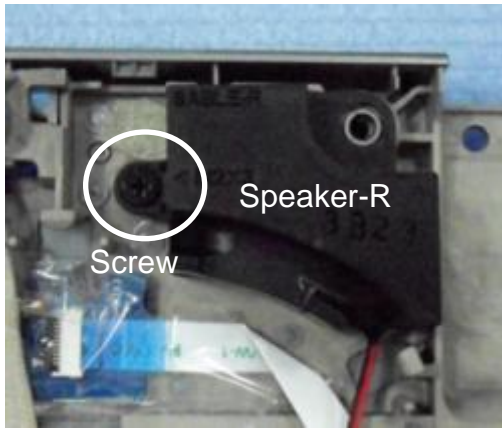

Fig.2
2. Loosen screw (6052A0035101) * 1, take out the speaker - R (6039B0058702). (Fig.2)